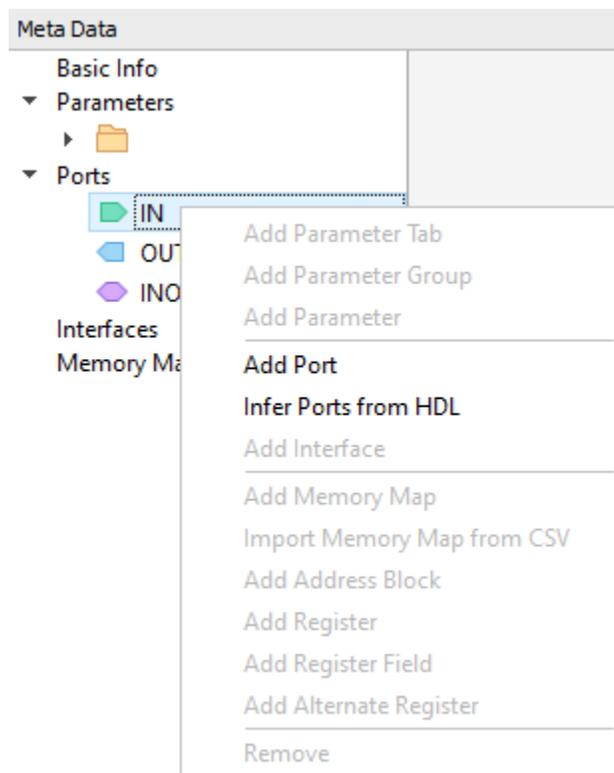

Figure 3.16. Right-click Menu of the IN Port
- Right-click **IN** from the Ports area, and choose **Add Port** (Figure 3.16).